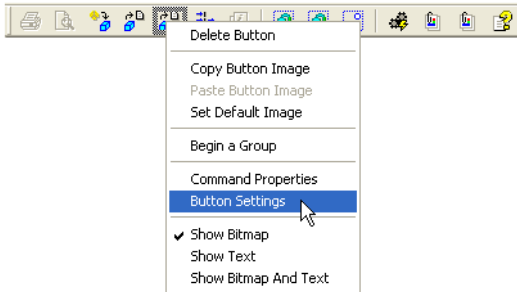

Figure 1-33. Display Command Properties
1. Right-click a **toolbar button** and click **Button Settings** on the pop-up menu (Figure 1-33).